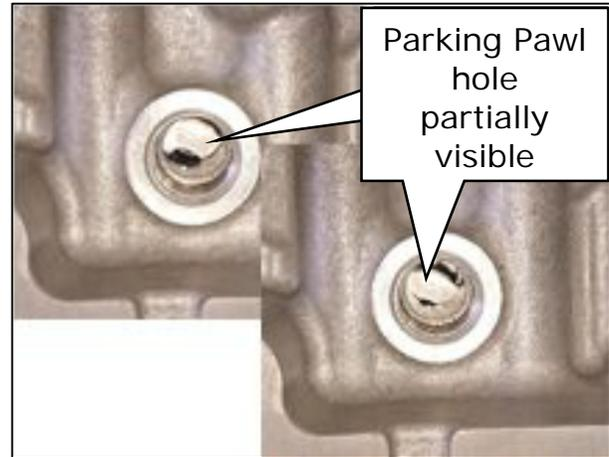

Figure 14
16. If the hole for the Parking Pawl is partially visible through the Transmission Case hole as shown in Figure 14, skip to step 19 on page 10.
- If the Parking Pawl raised and the hole is visible as shown in Figure 14, skip to step 19 on page 10.